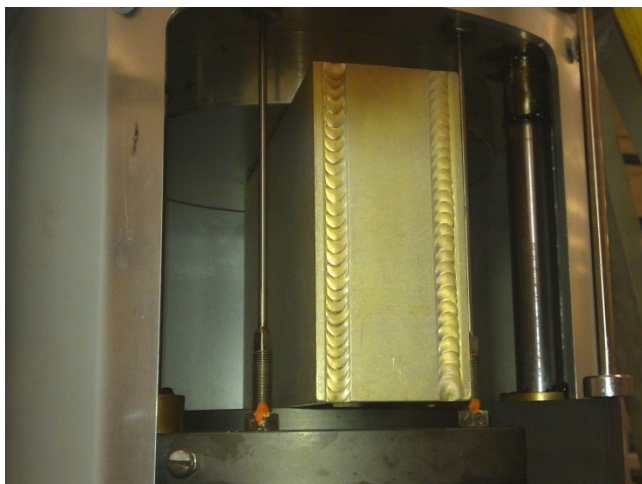

Figure 5-1. Safety Block
3. Carefully insert the safety block through the access opening as shown in Figure 5-1, straddling the middle LVDT if applicable and the piston rod as shown. The safety block is provided with the stop/ratio valve. It is an aluminum weldment having dimensions of approximately 6 inches tall by 3 inches wide by 8 inches long (152 mm x 76 mm x 203 mm). The safety block should be oriented with the opening towards the piston rod and the 6 inch dimension parallel to the piston rod shaft, with the piston rod and middle LVDT (if applicable) centered between the 6-inch tall sides, fully inserted as shown. Its purpose is to prevent accidental movement of the actuator while the actuator is being serviced.
3. Carefully remove the safety block from the access opening as shown in Figure 5-1.